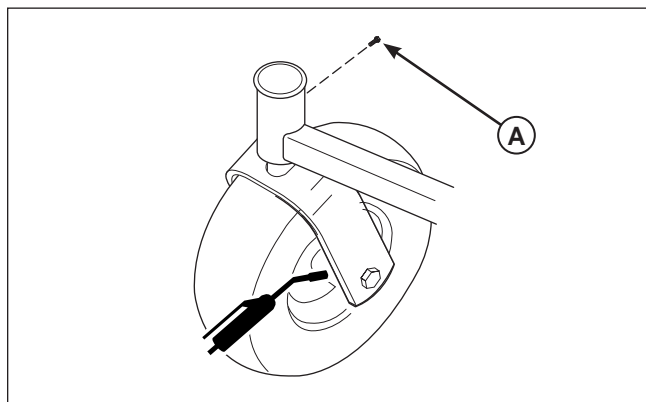

Figure 19. Front Caster & Wheel
1. Remove the 1/4-28 bolt (A, Figure 19) screwed into the caster and install a 1/4-28 grease fitting.